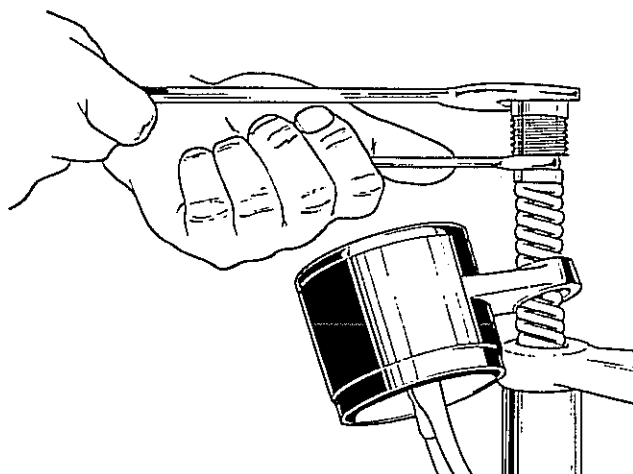

Fig. G7 Releasing damper rod from fork top bolts.
- 2 Unscrew and lift the fork tube large chrome top bolts and using two spanners as shown in *Fig. G7* release the damper rod from each top bolt.
10 Again lift the large chrome top bolts, firstly to add oil and secondly to connect the damper rods. Measure the required quantity of oil for each fork leg (150 cc of SAE 20). Pouring the oil into the leg will prove a long operation. To speed up the filling operation, pour in as much of the measured quantity as possible, place the hand firmly over the top of the main tube and extend the fork leg. Do this several times to speed up oil drainage into the slider. When the measured quantity has been added, and with the instrument case held in position, connect the damper rod to the chrome bolt as in *Fig. G7*. Using a socket wrench on the chrome bolts, tighten to 40 lbs/ft (5.83 kg/m).